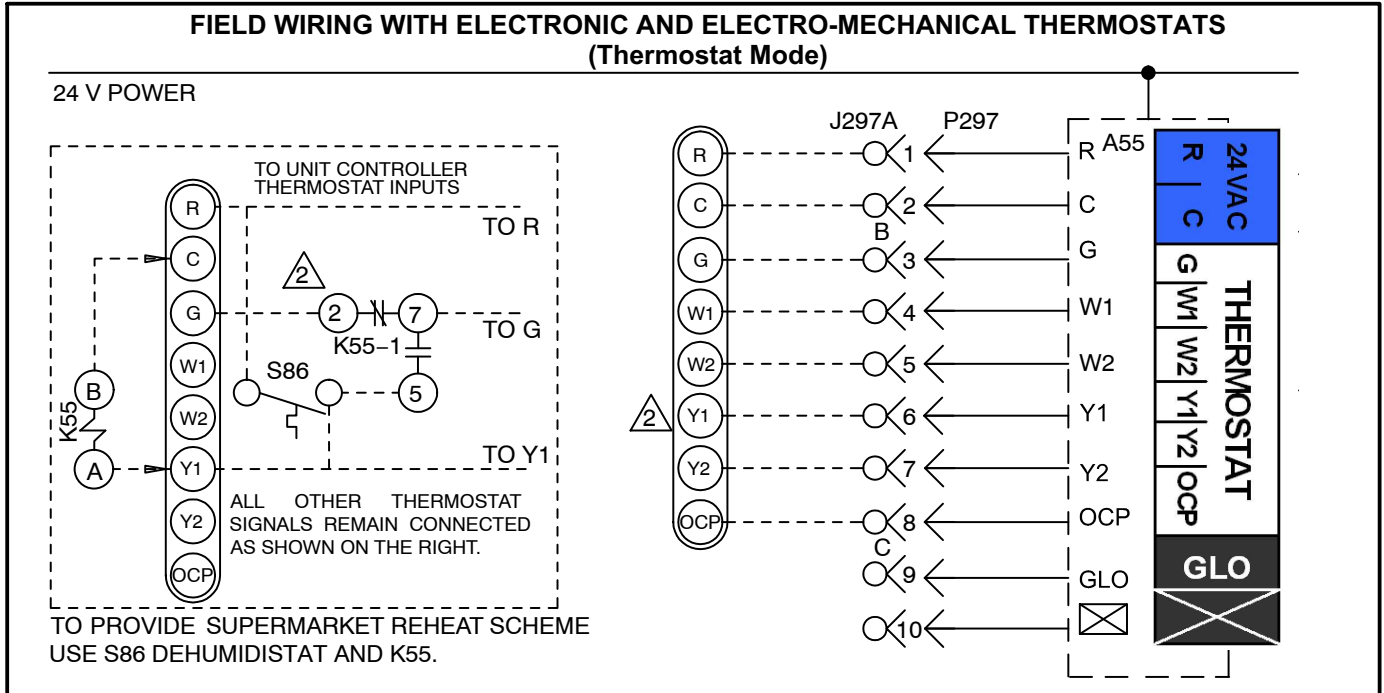
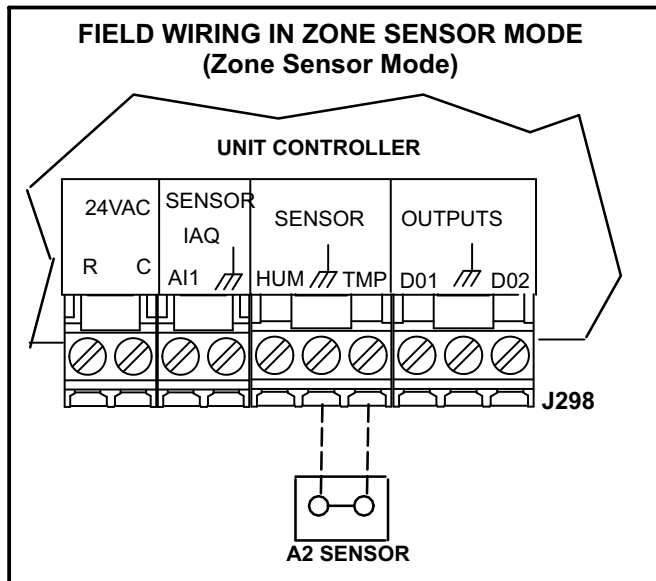
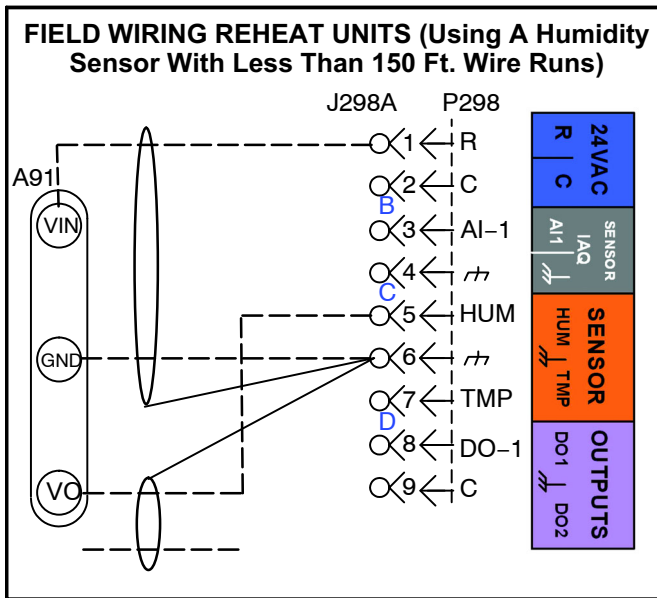
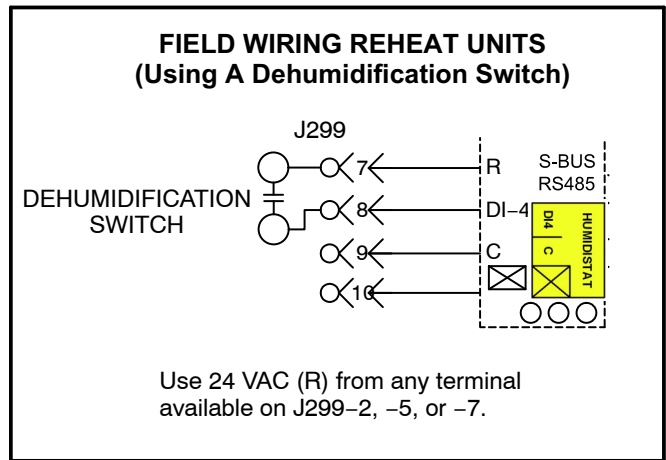

FIGURE 15
FIGURE 16
FIGURE 17
FIGURE 19
- 4- Wire as shown in figure 15 for electro-mechanical and electronic thermostats. If using other temperature control devices or energy management systems see instructions and wiring diagram provided by manufacturer.
The Unit Controller will operate heating and cooling based on the Unit Controller internal setpoints and the temperature from the A2 zone sensor. An optional Network Control Panel (NCP) can also be used to provide setpoints. A thermostat or return air sensor can be used as a back-up mode. Make zone sensor wiring connections as shown in figure 16.
- 2- Make wiring connections as shown in figure 15 for Thermostat Mode or figure 16 for Zone Sensor Mode. In addition, connect either a humidity sensor or a dehumidification input. See figure 17 or 18 for humidity sensor wiring or figure 19 for dehumidification input wiring.
Use two separate shielded cables containing 20AWG minimum, twisted pair conductors with overall shield. Belden type 8762 or 88760 (plenum) or equivalent. Connect both cable shield drain wires to the Unit Controller as shown in figure 17.
Use two separate shielded cables containing 18AWG minimum, twisted pair conductors with overall shield. Belden type 8760 or 88760 (plenum) or equivalent. Connect both cable shield drain wires to the Unit Controller as shown in figure 17.